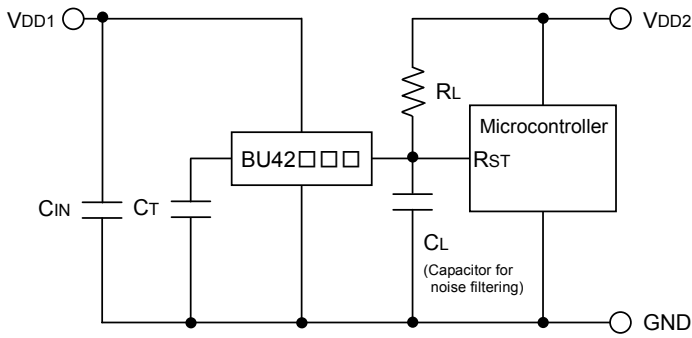

Fig.18 Open collector Output type
Use the Open Drain Output Type (BU42□□G/FVE) attached a load resistance (RL) between the output and Vdd2. (As shown Fig.18)